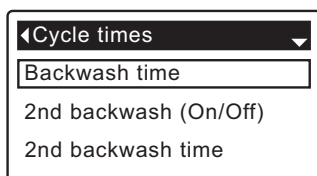

FIG. 66
5. Press the OK/MENU button to display the Cycle times menu (See Figure 66).
9. Press the OK/MENU button. The display will go back to the Cycle times menu (Figure 66).